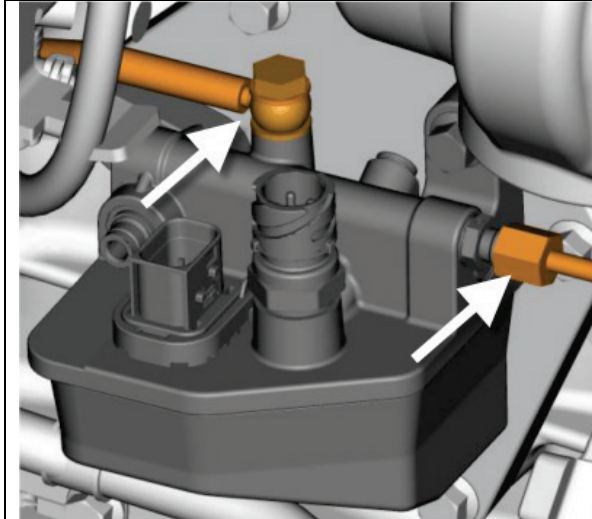

FIGURE 3
- 6) Disconnect the inlet and outlet fuel lines from the aftertreatment hydrocarbon dosing module. Collect any residual fuel that might be in the fuel lines in a suitable container (FIGURE 3).
- 9) Connect the inlet and outlet fuel lines to the aftertreatment hydrocarbon dosing module (FIGURE 3). Tighten the fuel line fittings to specification.